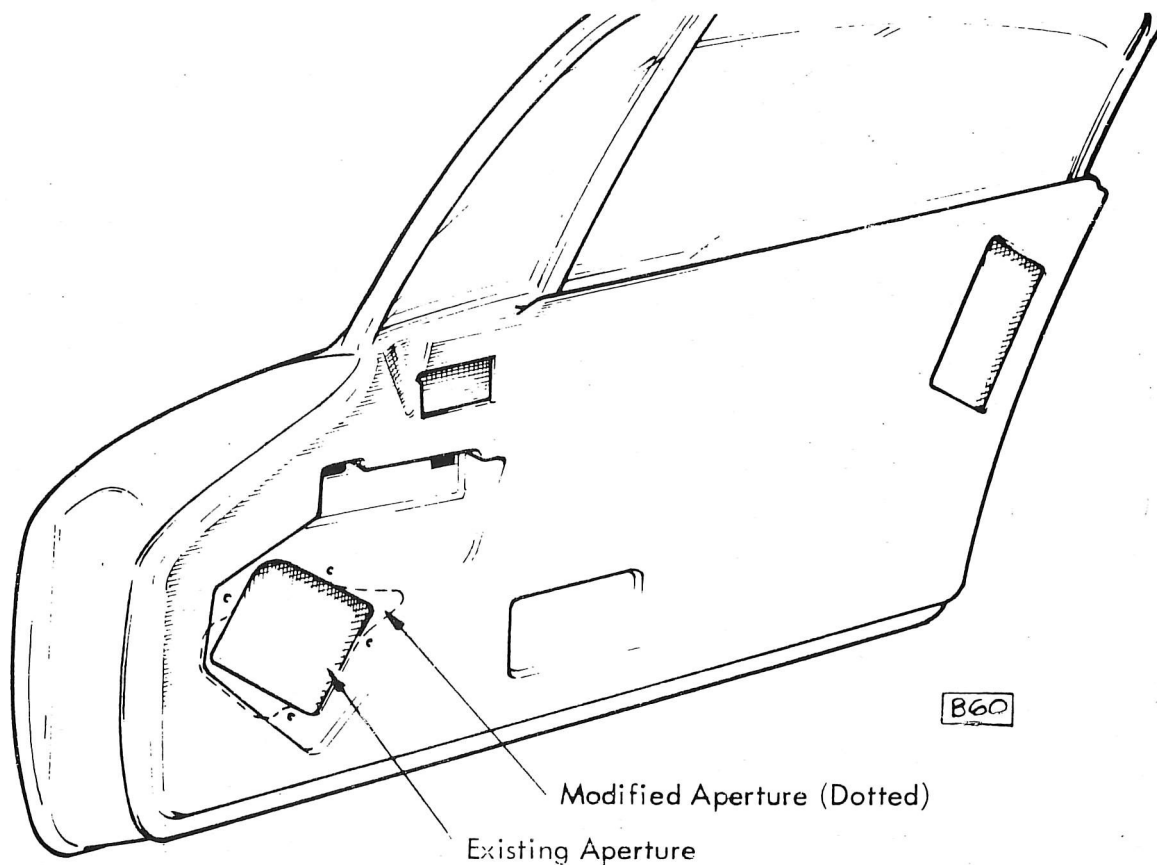

Fig. 22. WINDOW MOTOR APERTURE
To enable the window to be removed (See Section 'B.13') without disturbing the window frame, it is necessary to enlarge the aperture in the inner door panel (see Fig. 22).
20. While maintaining pressure from the exterior of the screen, fit the interior finishing strip (see Fig. 22), ensuring that the tang of the strip does NOT separate the butyl from the glass.